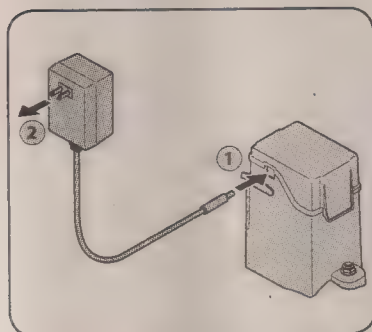

Figure 4-9
1. Unhinge the cover seal and plug the battery charger into the port on the side of the battery housing. See Figure 4-9.